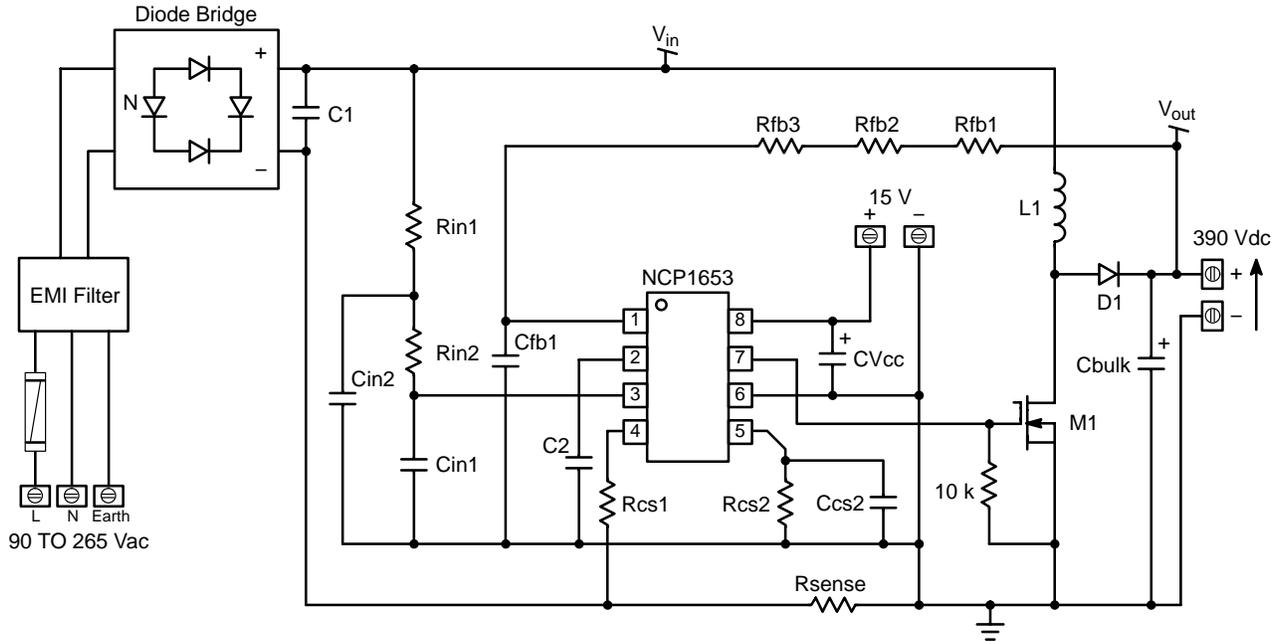

Figure 1. Generic Schematic
As shown by Figure 1, the feedback arrangement consists of:
- A resistor connected between the output voltage rail and pin1 to provide the circuit with a feedback current proportional to Vout. In practice, one generally implements two or three resistors for safety considerations (see Figure 1, given that Vout is a high voltage, an accidental shortage of the feedback resistor would destroy the controller. That is why it is better to have several series resistors instead of only one).
Hence, as portrayed by Figure 1, the Vin sensing arrangement consists of: